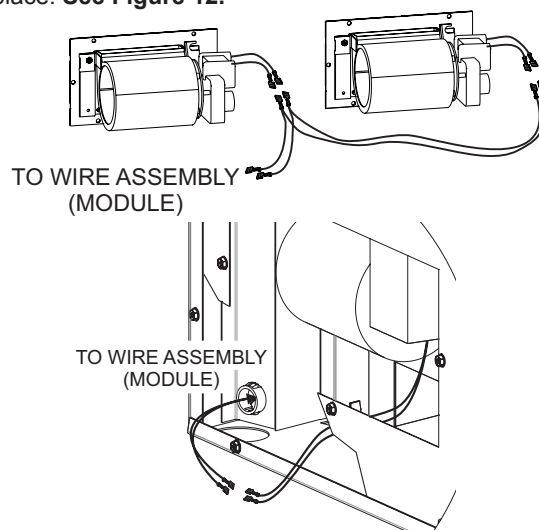

Figure 12
7. Remove protective connectors on Wire Assembly from fireplace and discard. Connect Wire Harness to both blowers and the other end to the Wire Assembly supplied with the fireplace. See Figure 12.